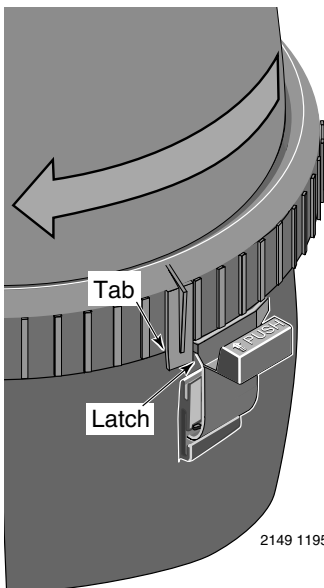

Figure 3 – Rotate Posi-Lok™ Ring until tab locks behind the safety latch.
1. Securely lock Posi-Lok™ ring in place by rotating ring CLOCKWISE until it “clicks” past the safety latch (see Figure 3). Stop turning as soon as the ring clicks past the latch. The ring may feel slightly loose, but it will tighten up when pump is on and filter is under pressure.
D. Rotate the Posi-Lok™ clockwise until it locks behind the safety latch (see Figure 3).